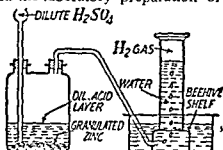

Fig. 28.2—Laboratory preparation of hydrogen
4. Preparation in the Laboratory.—Fig. 28.2 shows the type of apparatus commonly used in the laboratory preparation of hydrogen by the action of dilute sulphuric or hydrochloric acid on granulated zinc.